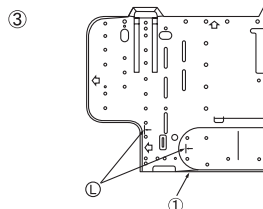

Fig. 3-7
- ③ If the flare pipe is to be embedded into the wall in advance: (Fig. 3-7)